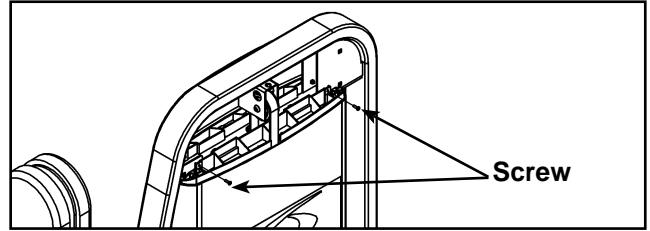

Figure 10
- B. Install the top two screws securing the back shroud. See Figure 10.